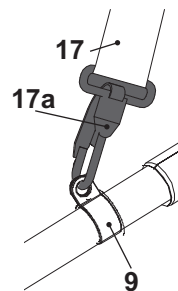

Fig. 8
4. Lock the harness (17) onto the loop (9) by the securing clip (17a) (Fig. 8).